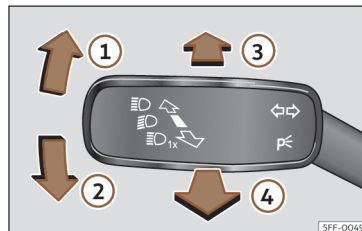

Fig. 92 Turn signal and main beam lever (depending on the version).
- From the base position, press the turn signal and main beam headlights lever forwards »» **Fig. 92** .
- **OR:** while the main beam is on, pull the turn signal light and main beam headlights lever forwards»» **Fig. 92** .